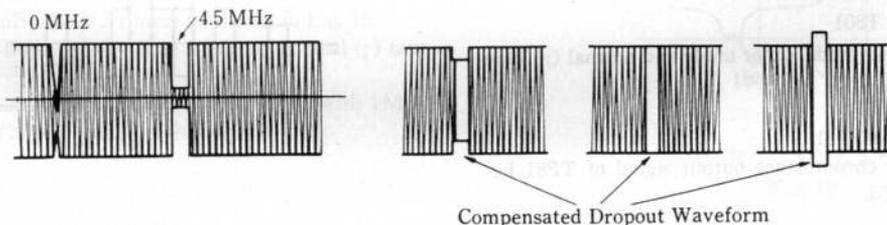

Fig. 29
5. Make sure that any compensated waveform shown in Fig. 29 is obtained at marked portion of input waveform.